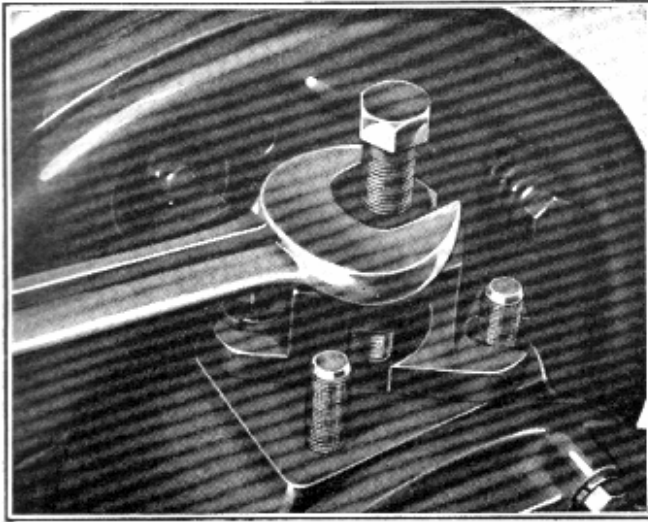

Fig. 11—Pivot Pin Removal Tool No. XA-3363-A
3. Remove the pivot pins, using tool No. XA-3363-A as shown in Fig. 11.